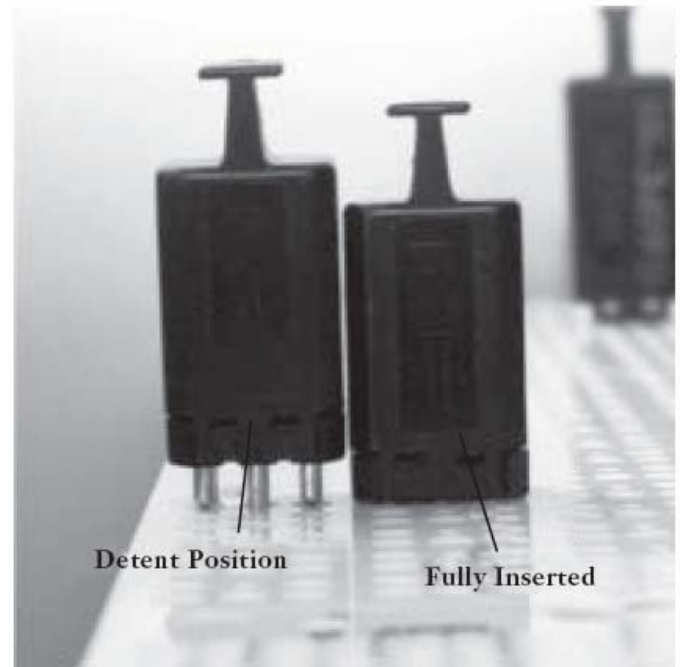

Figure 7
6.3 When the protector modules are fully inserted (Figure 7) into the connector base, the OP equipment and the CO equipment are connected. The grounding pin is connected to provide continuity through the connector base mounting bar and interconnected ground straps to the copper ground bar at the base of the distributing frame.
6.4 During installation, the protector module, if installed, should be in the detent position (Figure 7). This keeps the CO equipment disconnected from the outside plant yet the outside plant provides protection for the OP pairs.